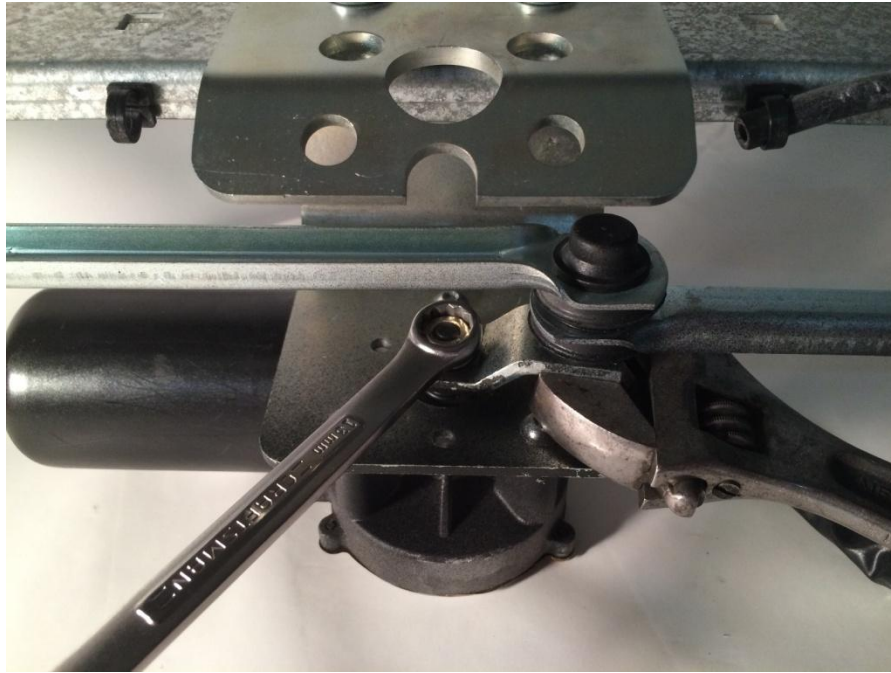

Fig. 5 Tighten crank nut with box wrench as much as possible
5. Restrain the crank arm from turning with the 1" open end or adjustable wrench. Use the 13 mm box wrench to tighten the crank nut as much as possible by hand (fig. 5).